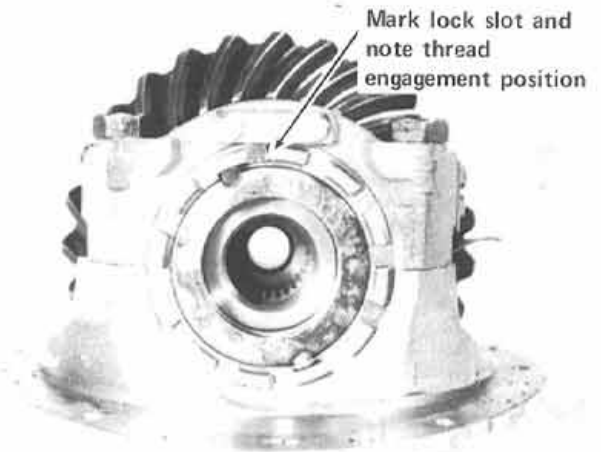

Figure 21
**NOTE:** Mark the adjusting nuts at each side of the differential for position. This is necessary to position the differential upon reassembly, if the same gear set is being reused. [See figure 21].